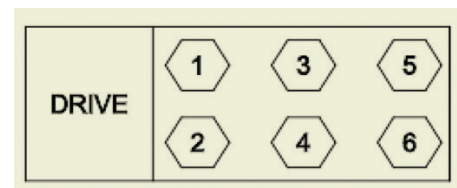

Figure 14
3. Torque bolts (**Item 51**) to 190 N-M (140 FT-LBS) using the numbered pattern above. (**See Figure 14**)